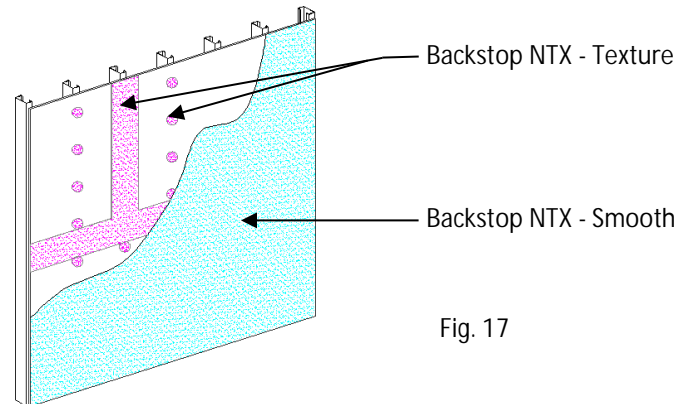

Fig. 17
- a. General: Dryvit Backstop NTX – Smooth can be applied using a roller or sprayed and back-rolled over the acceptable sheathing substrates. NOTE: OSB sheathing requires that joints and fasteners be treated with Backstop NTX – Texture. A minimum of two (2) coats of Backstop NTX – Smooth or Backstop NTX – Spray are required for the field of the wall. Backstop NTX – Texture is not recommended for application in the field of the board.
- 2) Backstop NTX – Smooth material should be applied in a uniform, continuous film at the recommended coverage rate – Figure 17. NOTE: Sheathing substrates with a surface texture or high porosity will require additional material.